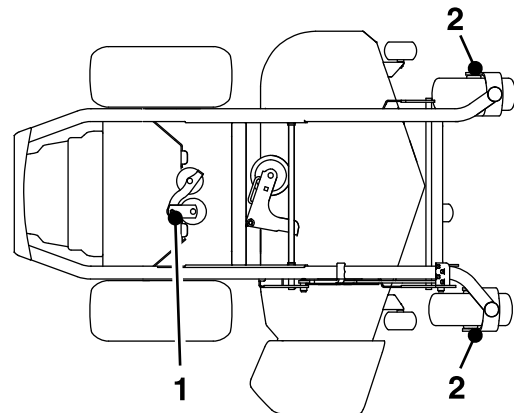

Figure 44
4. Grease the pump idler-pulley pivot with 1 or 2 pumps of grease (Figure 44).
5. Grease the front caster axles (Figure 44).